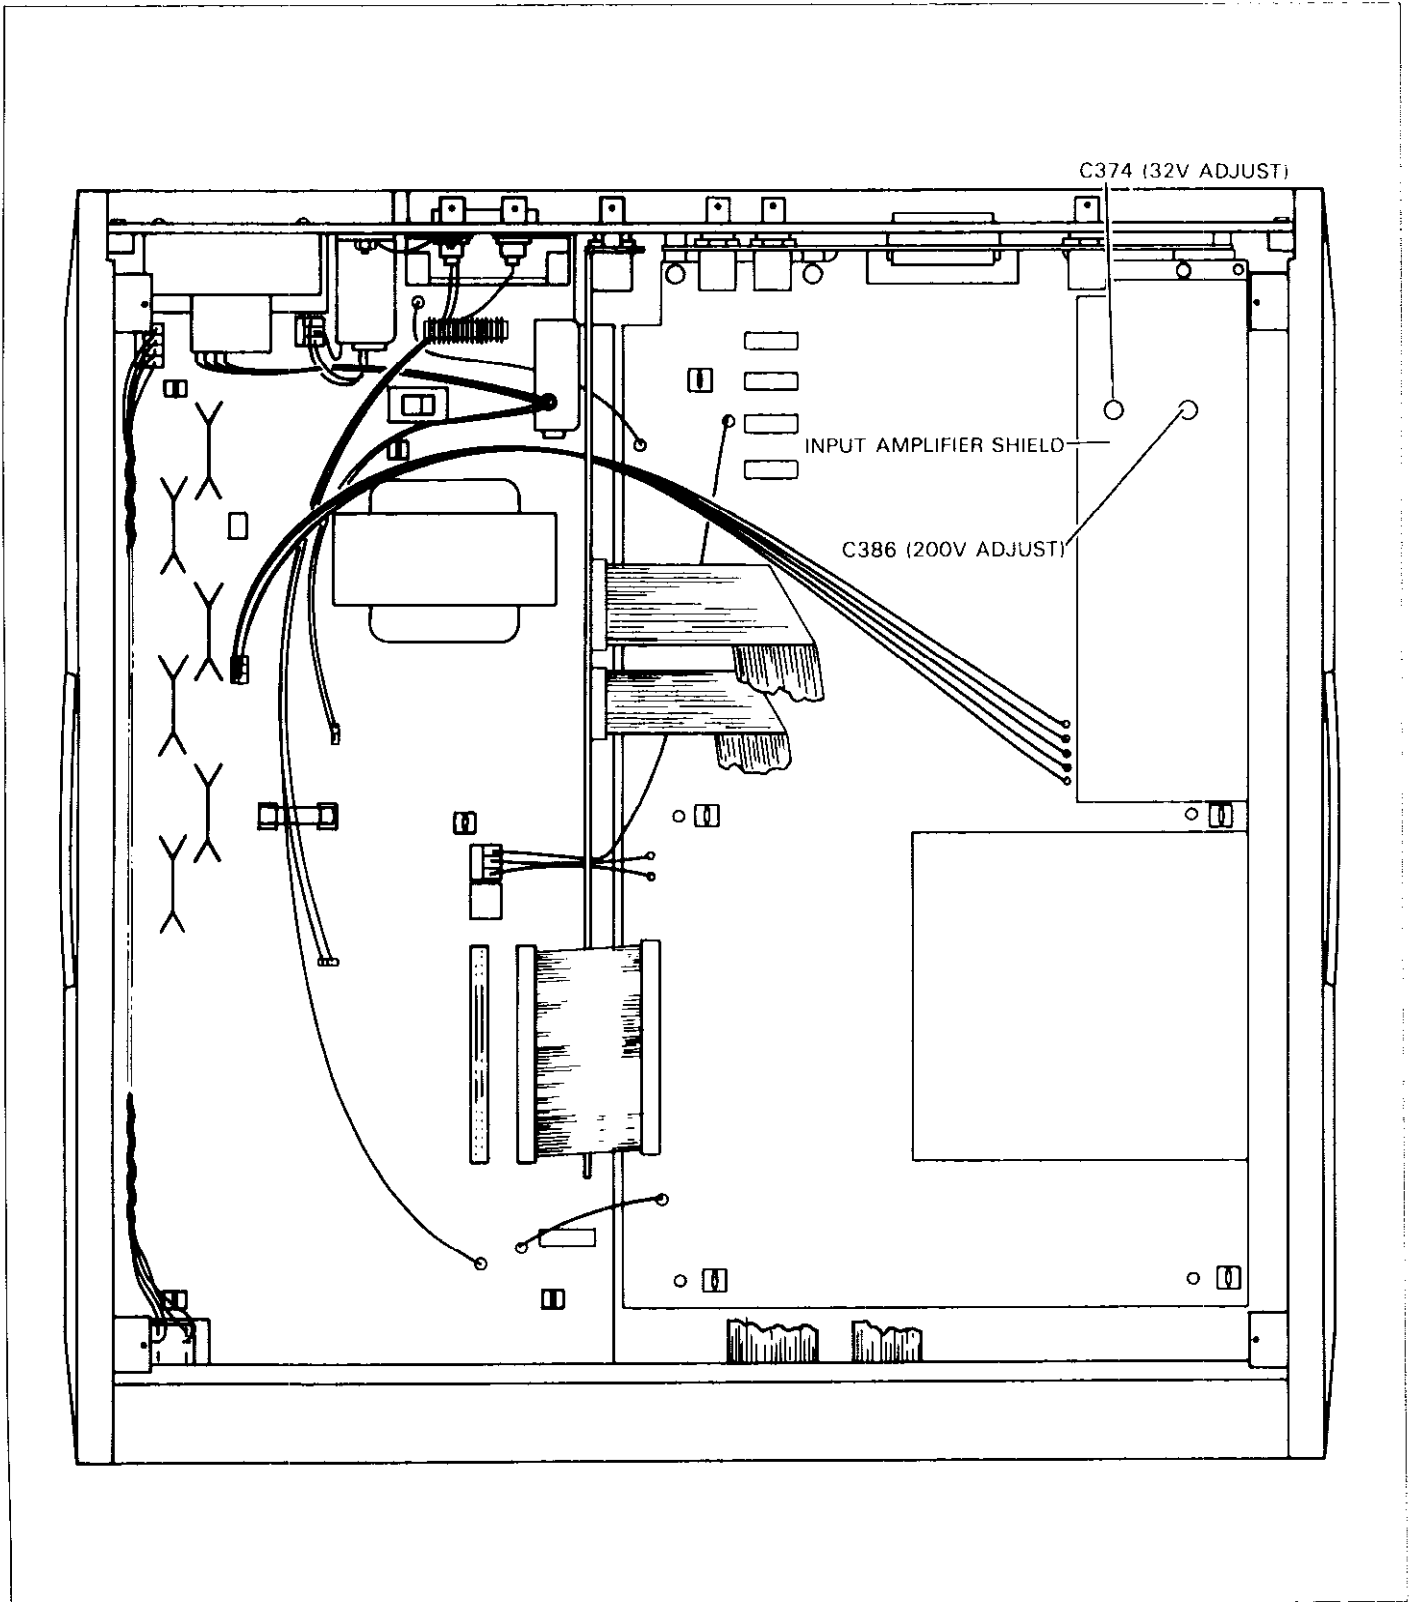

Figure 7-5. Frequency Compensation Adjustment Locations
The input amplifier incorporates two trimmer capacitors in order to adjust the input amplifier for flat response. These two capacitors are accessible through the input amplifier shield, as indicated in Figure 7-5. Use only a non-metallic alignment tool when making these adjustments in order to avoid misadjustment that could be caused by tool capacitance.
7. Adjust C386 on the input amplifier (Figure 7-5) for a reading of 000.00V \pm 0.2V on the display.
12. Adjust C374 on the input amplifier (Figure 7-5) for a reading of 00.000V \pm 0.02V on the display.